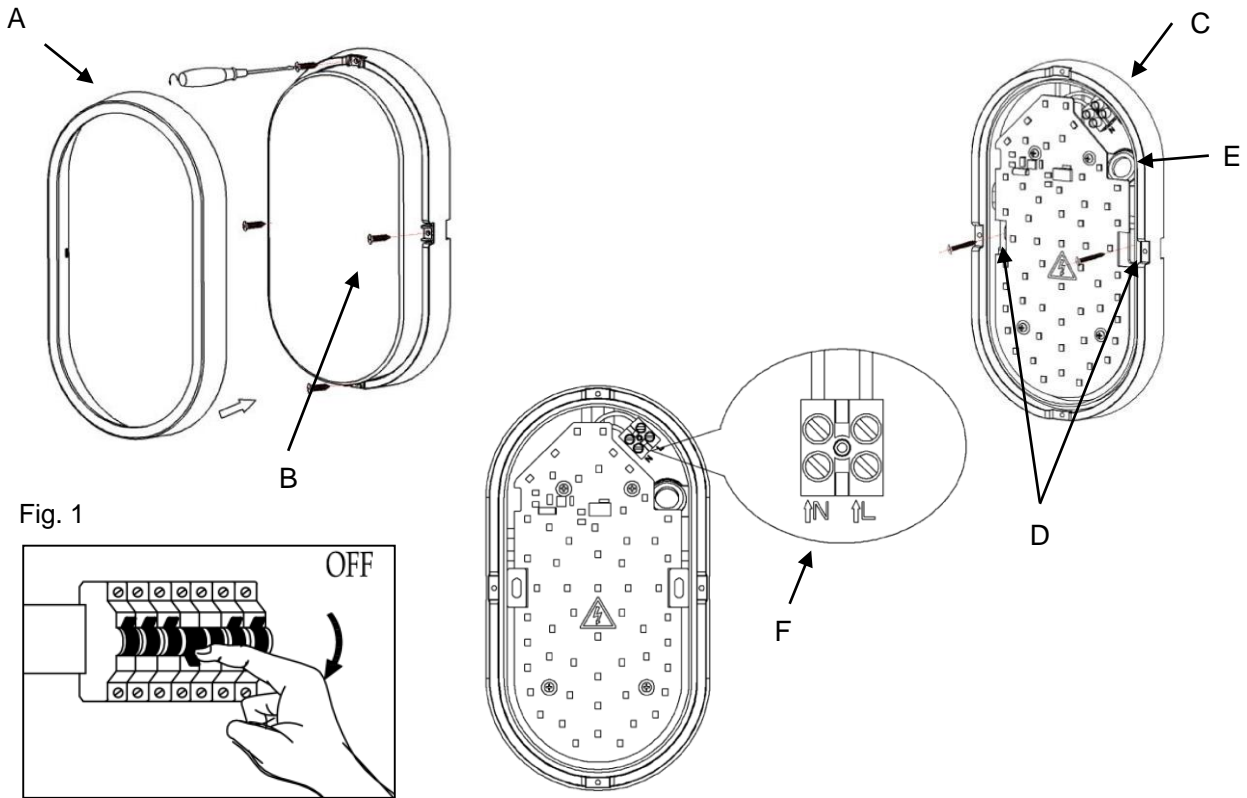

Fig. 1
- Ensure main supply is switch OFF. (Fig. 1)
- Connect the Live (L), Neutral (N) according to the markings on the terminal block 'F'. Double check and make sure the wires are secured.